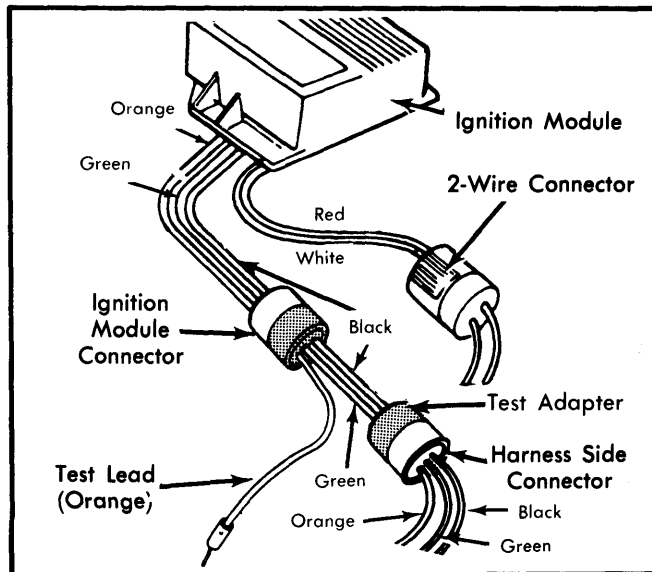

Fig. 6 Installation of Test Adapter or Jumper Wires for Performing EEC III Diagnosis
1) Disconnect ignition control module's 3-pin connector (black, orange and green wires). Install diagnostic test adapter (T79P-12127-A) between 3-pin module and harness connectors. See Fig. 6.